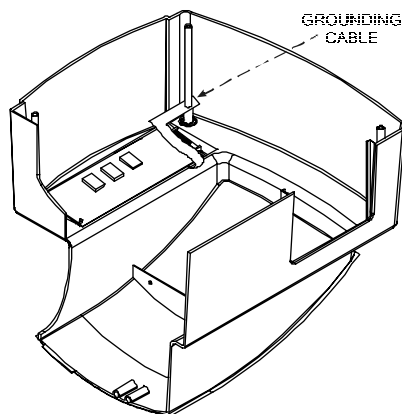

Figure 5-4. Keypad Grounding Connection.
4. Disconnect the grounding flex cable from the large standoff before removing the Keypad Assembly. See Figure 5-4 for location. Remove the Keypad Assembly.
3. Attach the Keypad grounding flex cable to the cover standoff as shown in Figure 5-4.